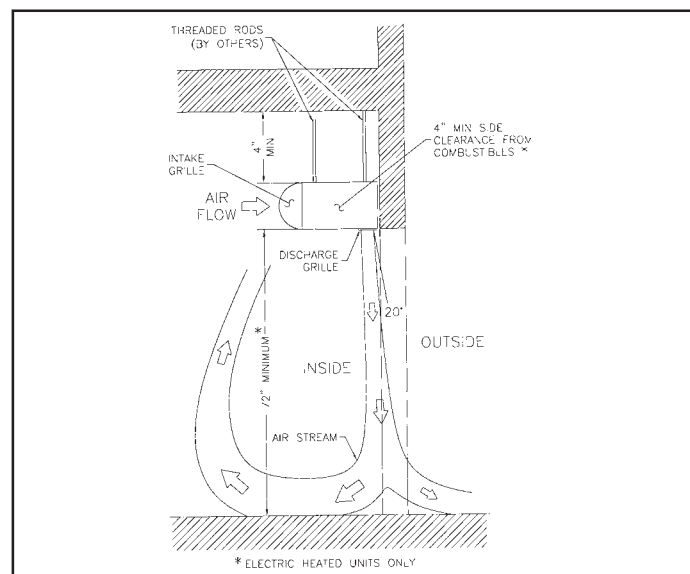

FIGURE 2 - Suspension Mount without Back Adapter
A. NO BACK ADAPTOR: Figure 2
1. Suspend the AURA Series air door on the inside of the building with the **louvered discharge grille** facing the door opening. **See Figure 2.**
2. Mount and level the air door by connecting four (4) 5/16-18 threaded rods or other suitable hardware (supplied by others) to the (4) 5/16-18 threaded inserts located on top of the unit.